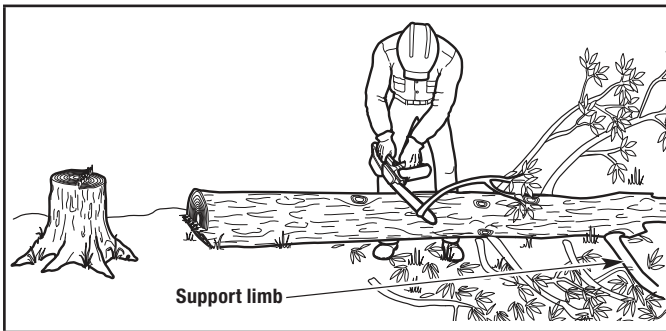

Figure 15
1. Leave the larger support limbs under the tree for last (Fig. 15). These will keep the tree off the ground during the limbing process.
2. Cut one limb at a time. Stand on the opposite side of the tree from the limb (Fig. 15). Keep the trunk between the operator and the chain saw. To avoid binding the chain saw, branches under tension should be cut from the bottom up.